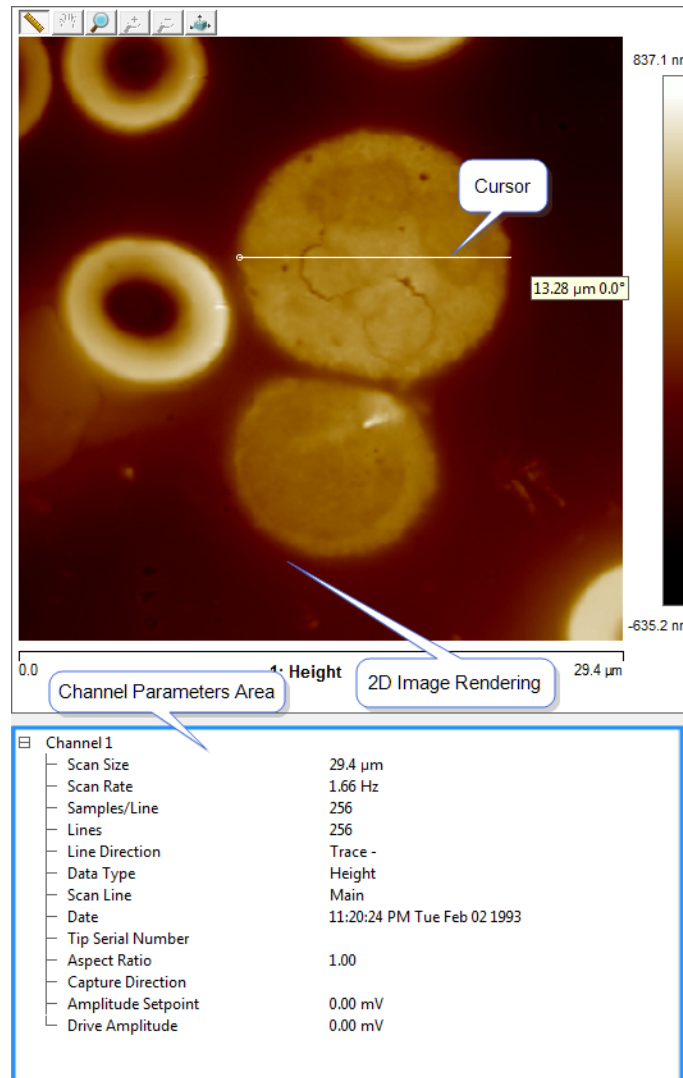

Figure 5.1a: 2D Image Menu and Window
2. The file is opened in the **2D Image** window, shown in Figure 5.1a.